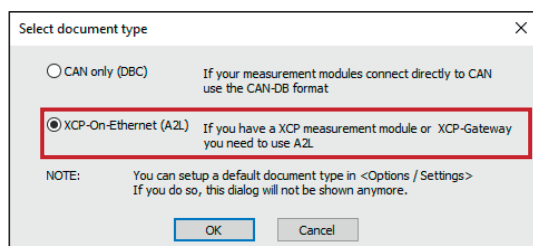

Fig. 6-9: **Select document type** dialog, **XCP-on-Ethernet (A2L)** selected
- ⇒ The **Select document type** dialog (Fig. 6-9) opens.
⇒ The **Select document type** dialog (Fig. 6-9) opens.